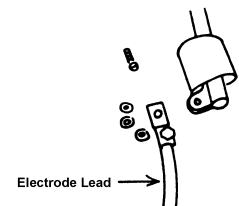

Figure 1.1
3. Expose the air and power connections by pushing back the insulated boot on the air carbon-arc torch. See Figure 1.1.